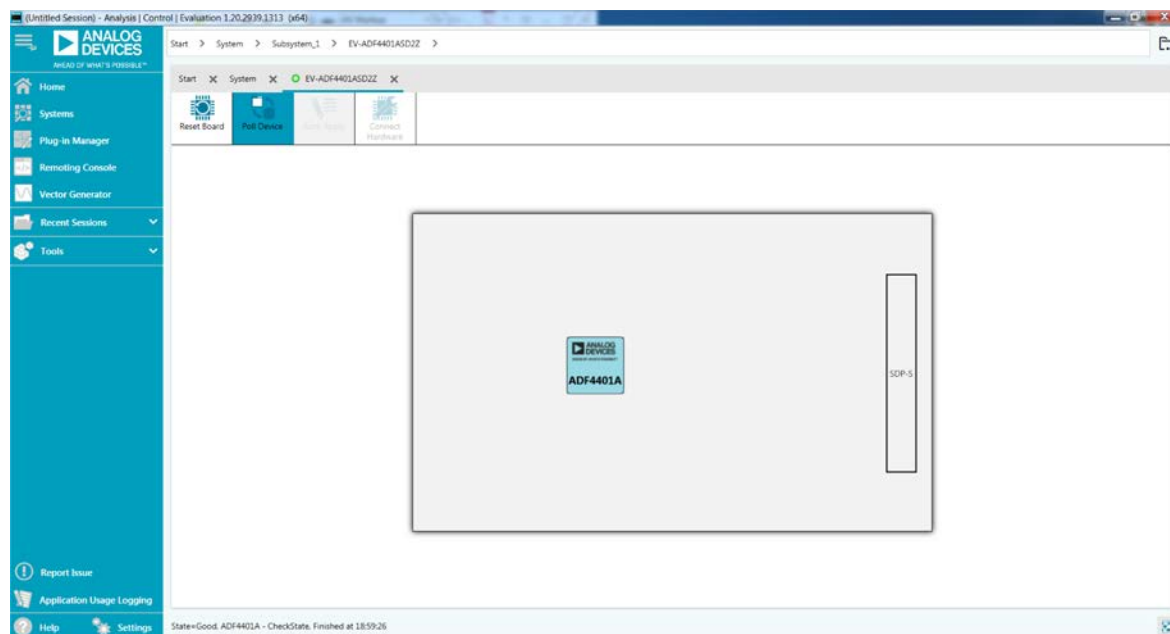

Figure 4. ACE **EV-ADF4401ASD2Z** Tab, Device Selection
2. Double click the **EV-ADF4401ASD2Z** icon to open the **EV-ADF4401ASD2Z** tab, as shown in Figure 4.